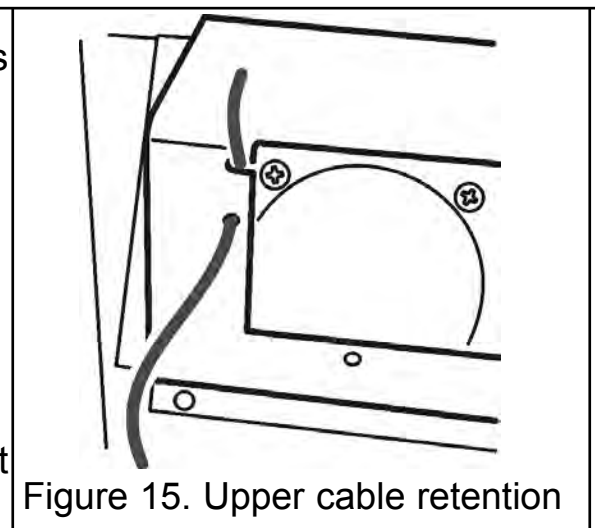

Figure 15. Upper cable retention
5. The rear of the convection box has a slot and hole each side of the outlet opening. Assemble one end of the cable to the top of the fire by passing it through the small round hole and locking by positioning the cable in the adjacent slot (See figure 15). Give the cables a pull so that they grip.